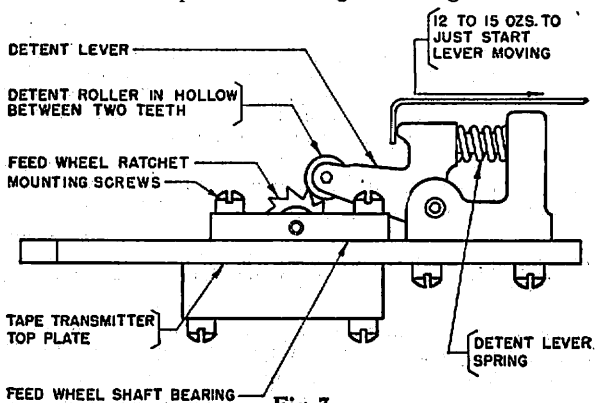

Fig. 7
4.13 **Detent lever spring tension** shall be Min. 12 ozs., Max. 15 ozs., measured as in Fig. 7, when tape transmitter top plate is held upside down in a horizontal plane and detent roller is in hollow between two ratchet teeth.
(a) To adjust, loosen feed wheel shaft bearing mounting screws and position bearings. See Fig. 7.